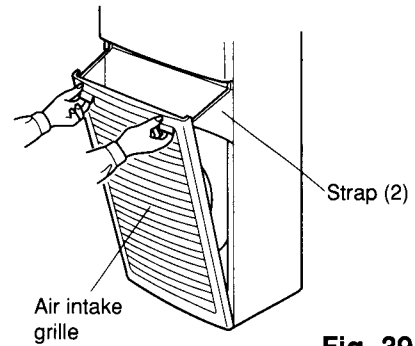

Fig. 39
- ① Opening the Air intake grille
- a. Pull both edges of the top of the air intake grille up and then pull the grille out. The upper part of the air intake grille can then open slightly. (Fig. 39)
- b. Remove the 2 short straps holding the grille by small hooks to remove the grille from the cabinet. (Fig. 39)